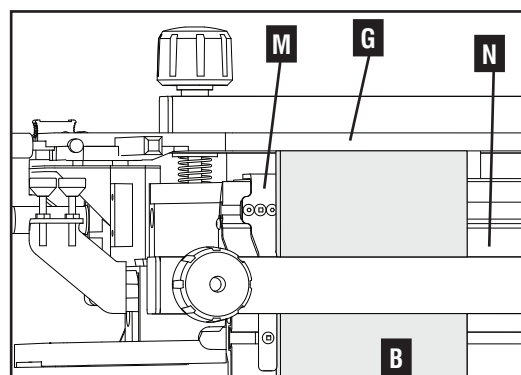

Fig. H11
10. Reposition the tenon board so that it is flush with the jig base (N), template (G) and left edge guide (M), as shown in Fig. H11.